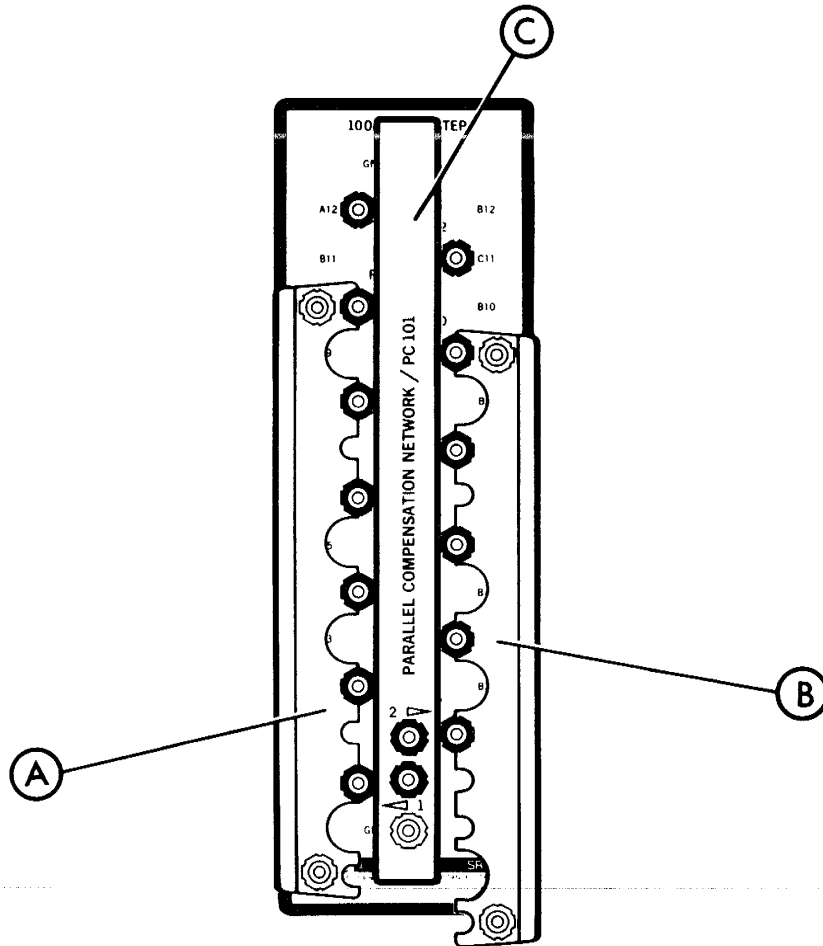

Figure 5-8. Shorting Bar and PC101 Connections for 10 ohms
7. Connect the Parallel Compensation Network Model PC101 and the shorting bars to calibrate the 100 ohm-per-step SR1030 at 10 ohms. Reference Figure 5-8.